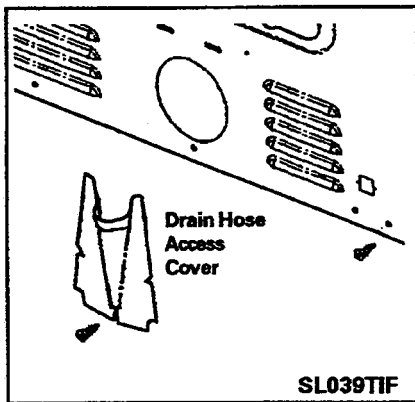

Figure 2-34
3. Remove the 5/16" hex-head screw securing the drain hose shield, then remove the shield (*Figure 2-34*).